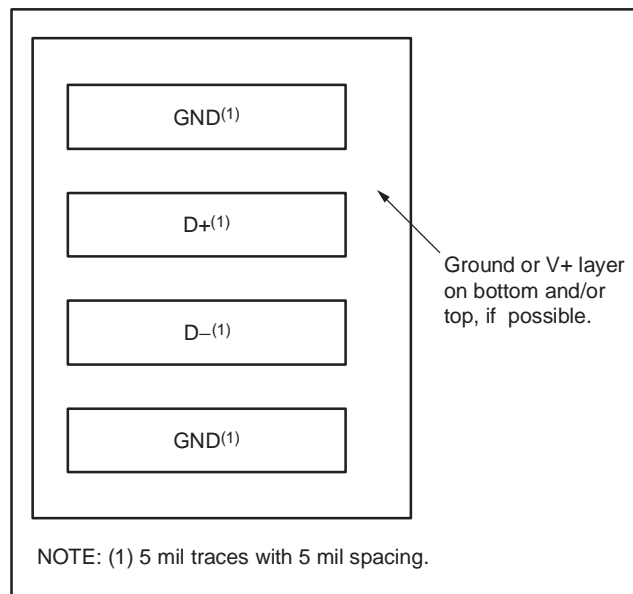

Figure 19. Example Signal Traces
2. Route the D+ and D– traces next to each other and shield them from adjacent signals through the use of ground guard traces, as shown in Figure 19. If a multilayer PCB is used, bury these traces between ground or V_{DD} planes to shield them from extrinsic noise sources. 5 mil PCB traces are recommended.